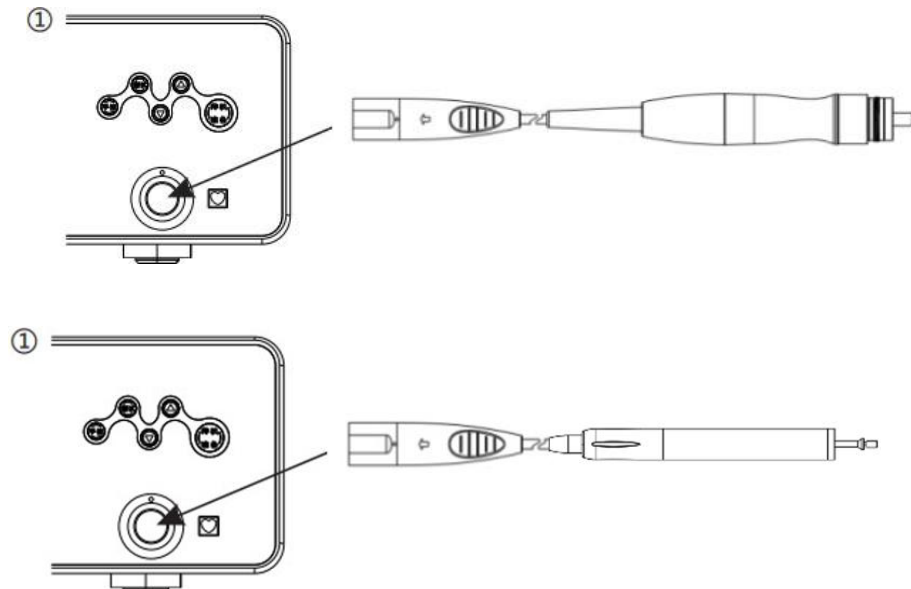

Figure 5 Connection between handpiece and generator
2) The connection between handpiece and generator is as shown in Figure 5